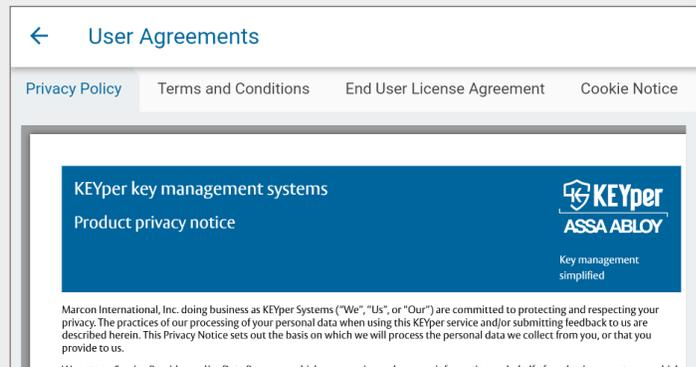

Fig. 140 – User Agreements screen
3. On the **User Agreements** screen, click or tap to review the **Privacy Policy**, **Terms and Conditions**, **End User License Agreement**, and **Cookie Notice** tabs, as shown in Fig. 140.